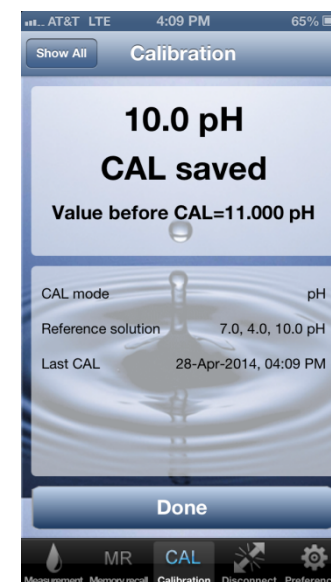

Figure 35
8. Once the last calibration point is completed, tap the Done button (see Figure 35) to return to the initial Calibration screen.